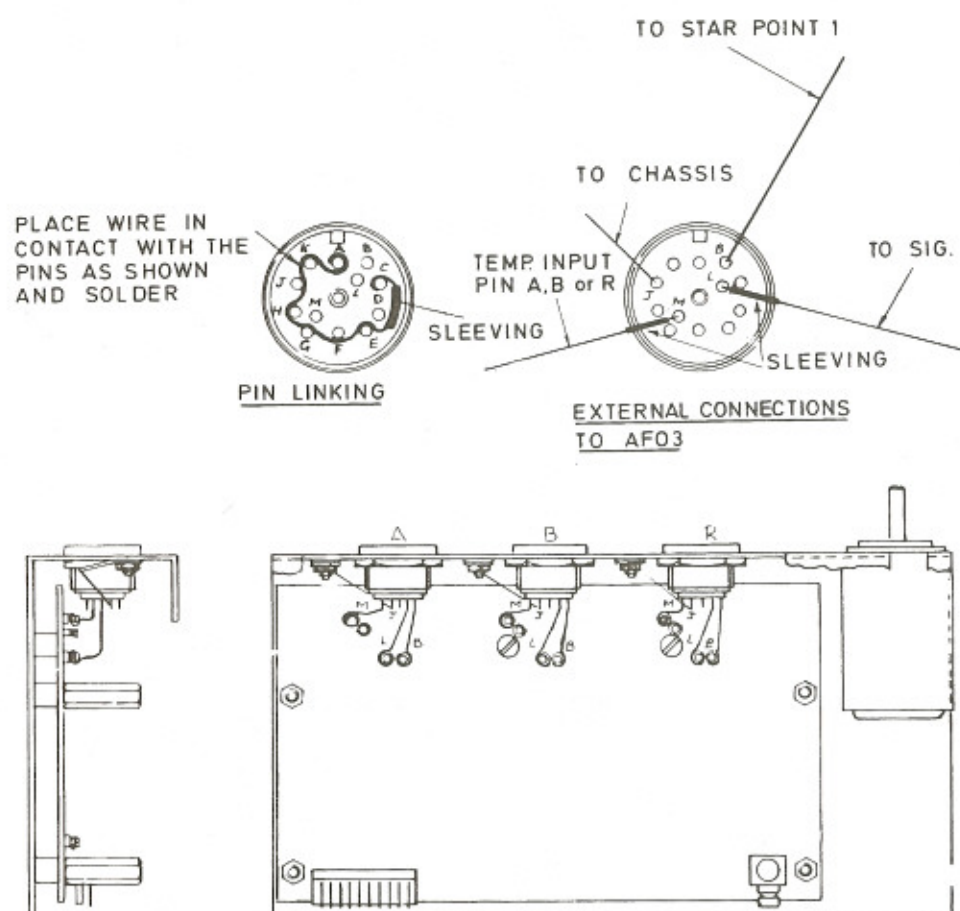

Fig. 10 Probe input sockets and AF03 board interconnections
81. If one channel only is affected it is possible that the fault lies in that channel's Chopper or 1st stage amplifier. If board AF03 replacement is thought to be necessary it should be carried out with extreme care. Interconnections between each of the probes input sockets and the board are kept as short as possible to prevent noise pick-up. Fig. 10 indicates the interconnections between the probe input sockets, their pin connections and the board terminations. Also indicated are the wires that require sleeving.
Check : That all connections to the input probe socket pins are correctly terminated and sleeved as shown in Fig. 10. Ensure that connections to pins B, M and L are not shorting to a chassis pin connection.